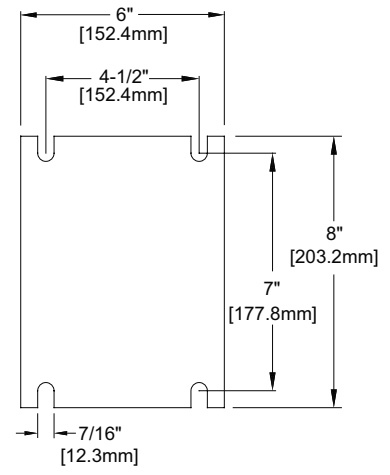

Figure 3: Mounting Hole Pattern
- Using the hole pattern shown in Figure 3, mark and drill appropriate pilot holes into mounting surface.